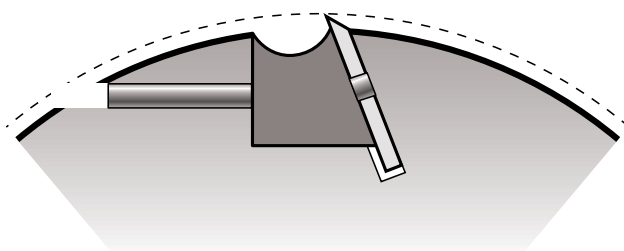

**Figure 4** Example of a non-round form tool with limited cutter projection
**Non-round form tools** should be designed in such a way that cutters project a maximum of 1.1 mm beyond the edge of the tool body or limiter (see Figure 4).